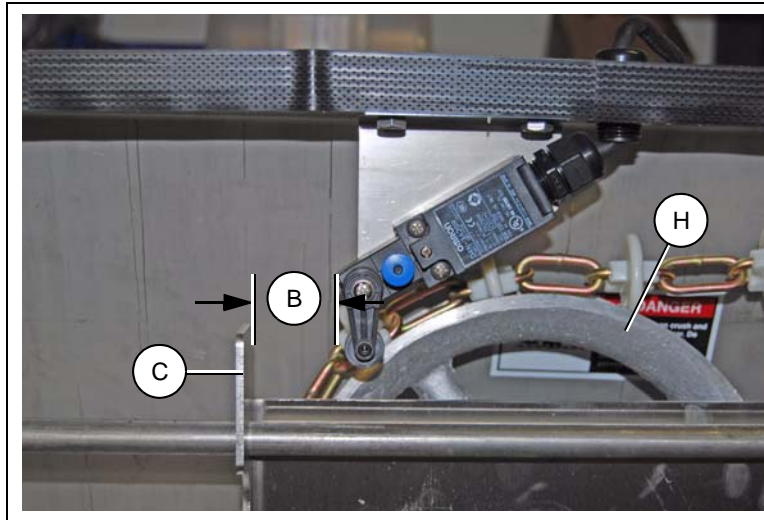
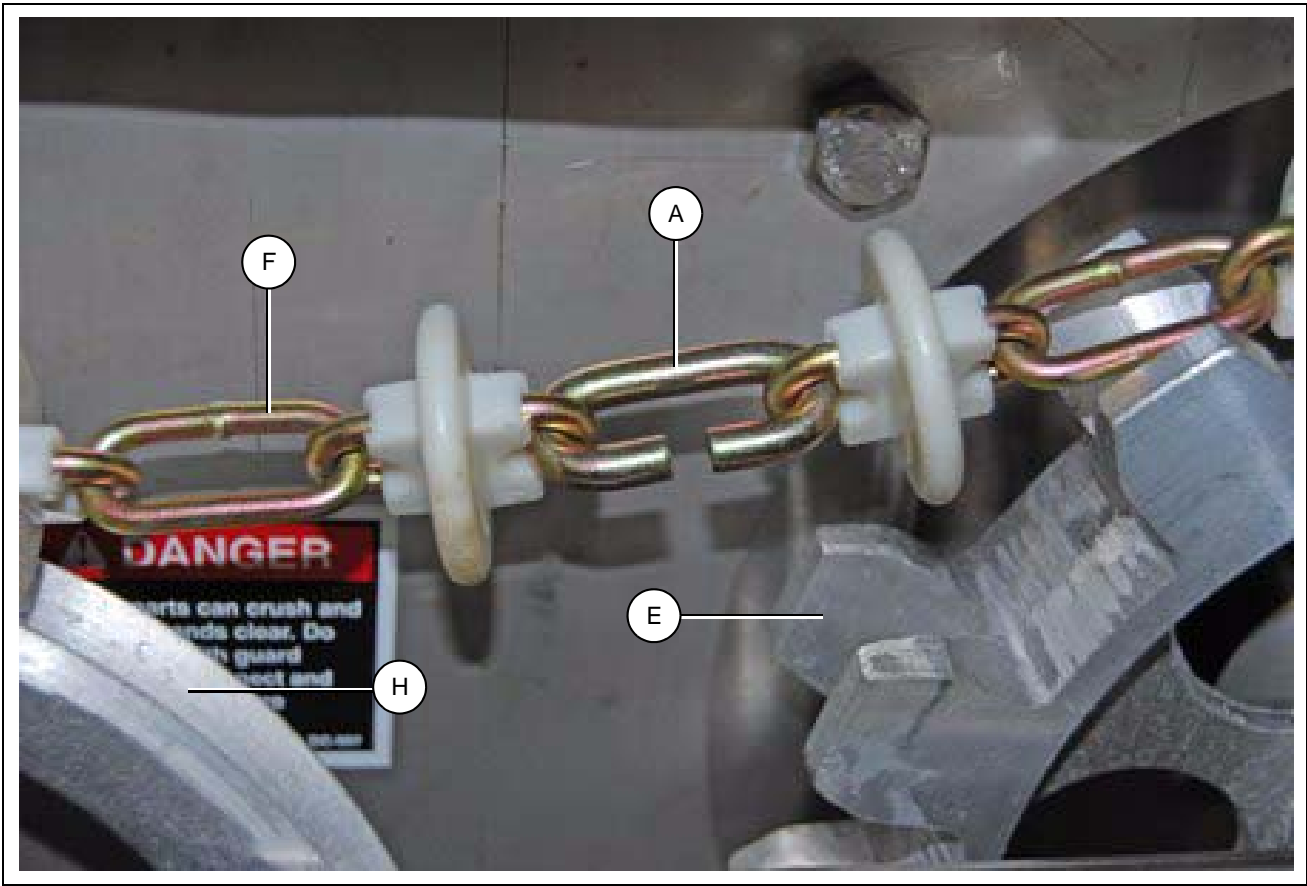

Figure 13H
Figure 13J
1. Unhook both springs inside the drive unit. (*See Figure 13H-Figure 13J below and Page 40.*)
3. Wrap one end of the chain and disks around the idler wheel and the other around the drive sprocket as shown in *Figure 13H-Figure 13J below and Page 40*. The fan end of the motor has a shaft extension with flat sides which can be turned with a 1/2" wrench to thread the chain and disks around the drive sprocket. Remove the plastic protector cap to expose the motor shaft extension.
4. Cut the two (2) ends of the chain and disks so that the connection can be made in a convenient location.
5. Connect the ends using a connector link. (*See Figure 13H-Figure 13J below and Page 40.*)
6. Repeat Steps 1-4 above until the limit switch stays approximately 2" from the left limit switch tab as shown in Figure 13H-Figure 13J on Pages 39 and 40. Increase the time that the system runs each time these steps are repeated until the system has run for at least 10 minutes.